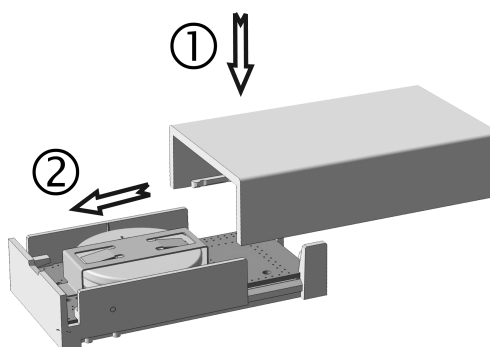

Figure 6: Close housing
- Reattach the housing lid and push the housing together until it locks into place. (Figure 6). The device is ready for operation.